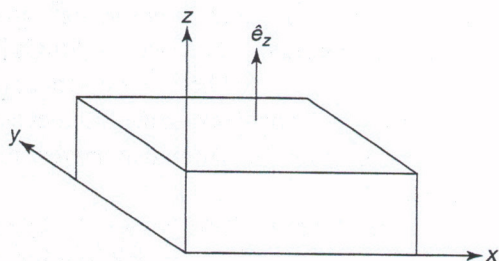

Figure 5.43
44. A control volume shaped like a rectangular parallelepiped is shown in Figure 5.43. For the velocity field given in Problem 43, how would you calculate the total fluid force on the z -surface of the control volume for a power-law GNF? What additional information would you need? The dimensions of the box in the x -, y -, and z -directions are L , W , and H , respectively.